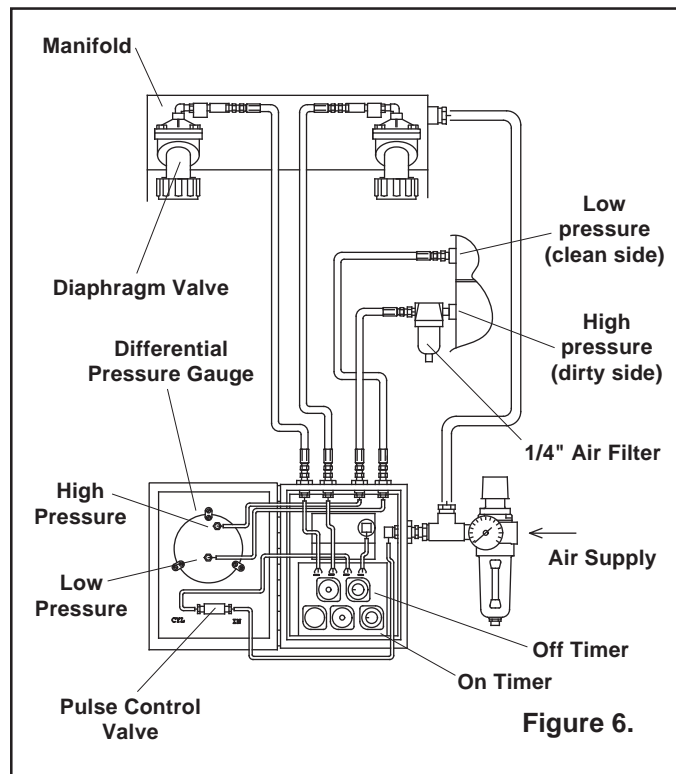

Figure 6.
3.6.2.3 Connect air lines between the quick release diaphragm valves and panel fittings as shown in Figure 6.
3.6.2.4 Open the panel to verify the following connections: Connect an air line between the "Low pressure" side of the differential pressure gauge to the upper fitting on the collector wall. Connect another line from the "High pressure" side of the gauge to the 1/4" air filter on the collector wall. See Figure 6 for air schematic.
(Refer to the air schematic in Figure 6, dust collector models only)